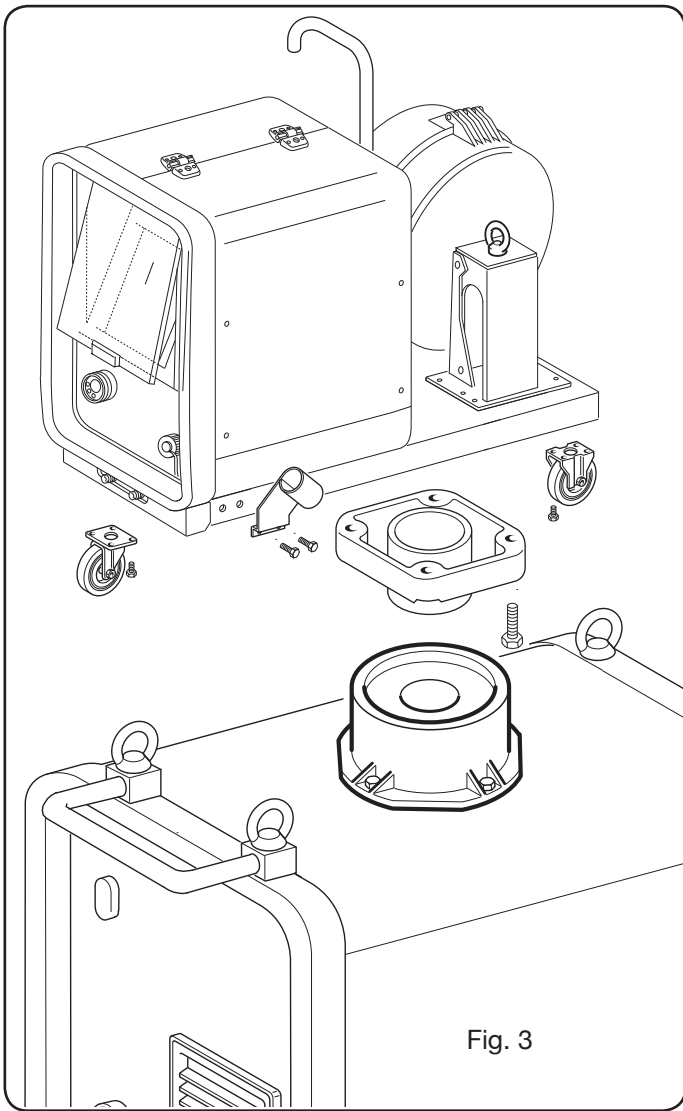

Fig. 3
- For machines with trolley, the pivoting system must be mounted both on the wire feeder trolleys and the power source; the small wheels provided together with the screws must be mounted at the bottom of the wire feeder trolley as well as the welding torch support, then place the trolley in its position. (see figure 3).